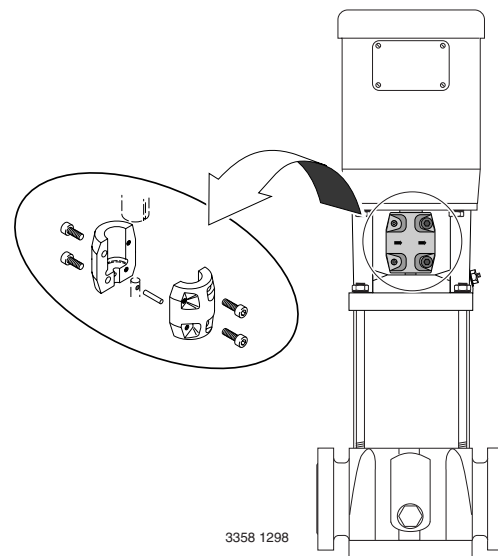

FIGURE 12 - Remove the Socket Head Screws and the Coupling Halves
4. Remove the socket head screws (Key No. 3) and the coupling halves (Key No. 2) from the shaft (Key No. 16A). For additional reference, see Figure 12, Page 10.